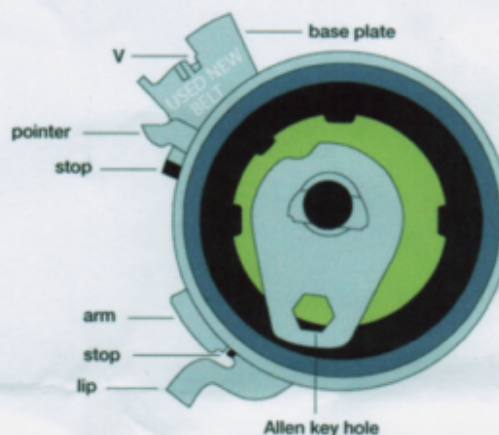

Fig. 1
6. Install new tensioner, hand tighten bolt. Tensioner lip **has to be** in oil pump housing slot. (Tensioner pointer has to sit behind water pump pulley). The Allen key hole has **to be set** in +/- 7 O'clock position (fig. 1).